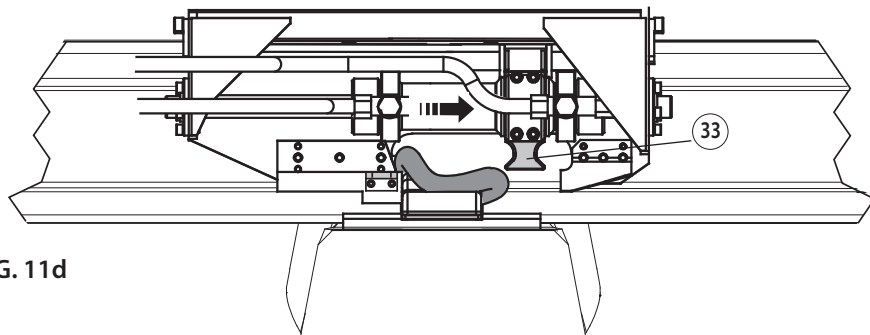

FIG. 11d
- After insertion, pull the control lever to "EXTRACT" position for teeth (33) reversal (see Fig. 11d).